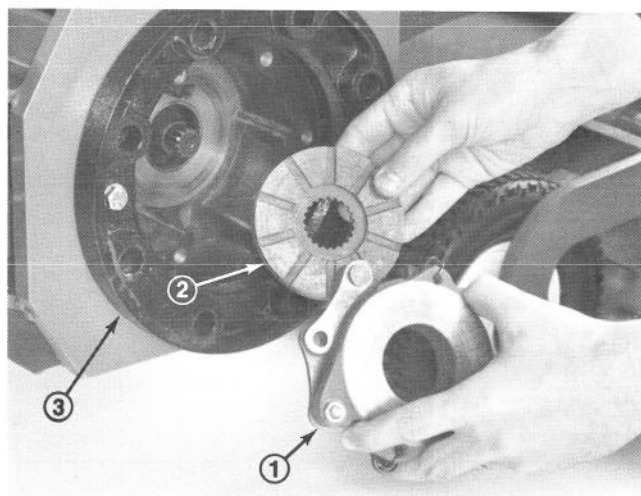

Figure 7
12. Remove brake actuating disc assembly and inner brake disc (Fig. 7).
14. Support hydraulic wheel motor with blocks to keep weight off hydraulic lines and remove two (2) capscrews, lockwashers and flat washers securing motor to brake housing (Fig. 7).